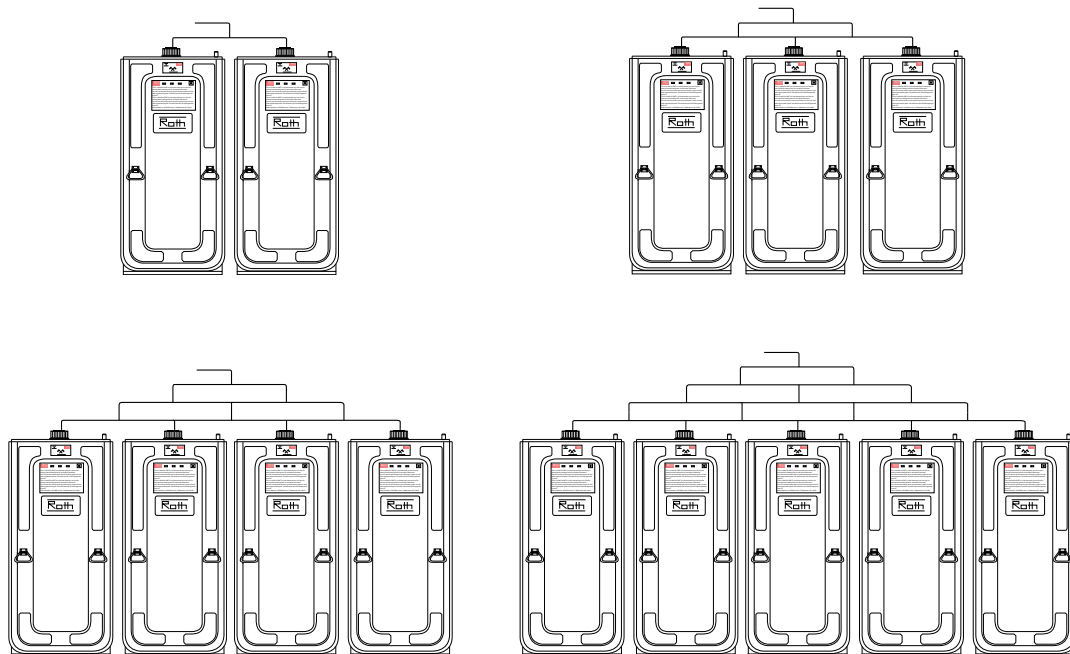

Figure 5.5
4. The piping configuration is known as "equal manifold" and requires balancing the suction in the supply line and the flow in the return line (if used) equally across all the tank connections. (see figure 5.5)